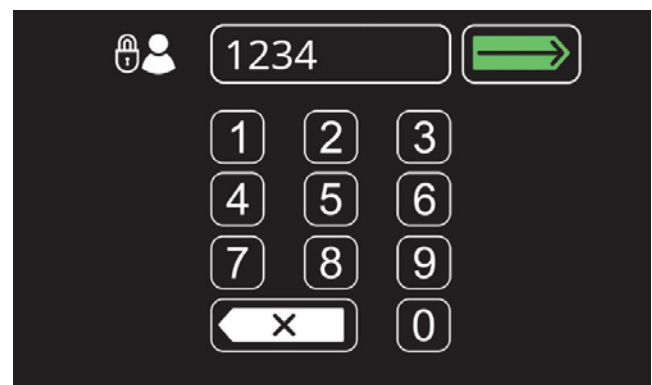

FIG. 166
3. First time use - Enter the factory-assigned supervisor mode login code "1234" then press the green enter button (Figure 166).